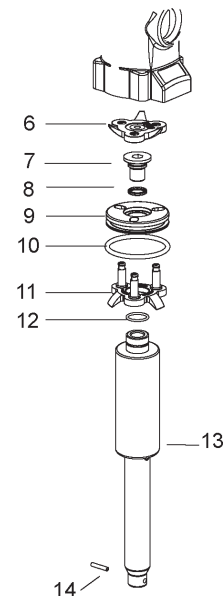

Fig. 6
- Unscrew the suction tube. Be careful not to damage O-ring (23).
- Remove pin (14) to separate the lower part of the pump (see fig. 6).
- Remove screws (22) and pull the air motor dolly to remove it. The air motor parts will be accessible.
- Replace parts (18) and (15) if required.